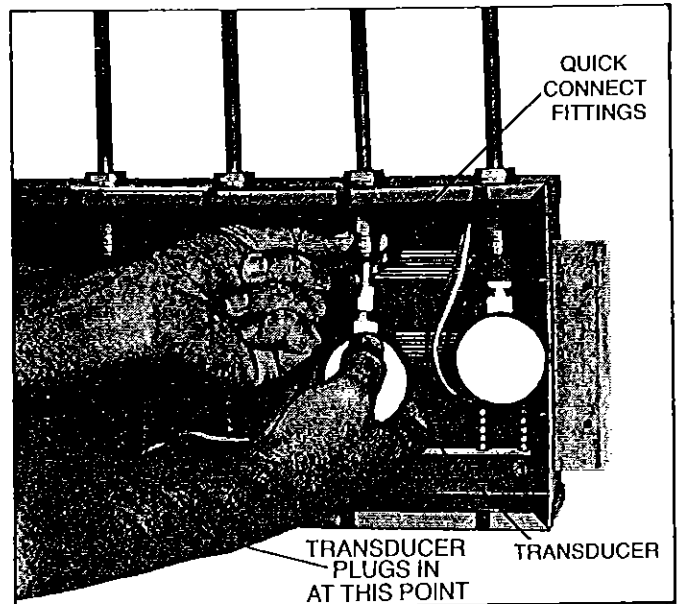

FIG. 12 — INSTALLING TRANSDUCER
2. Install the pressure or vacuum transducer by pushing up on the brass coupler sleeve and inserting the male connector on the gauge (See Fig. 12.) Repeat steps 1 and 2 for all remaining transducers.
- A) Remove the transducer associated with the module being calibrated (See Fig. 12) so that the Digital Display reads zero. The electrical connector of the transducer must stay in place.